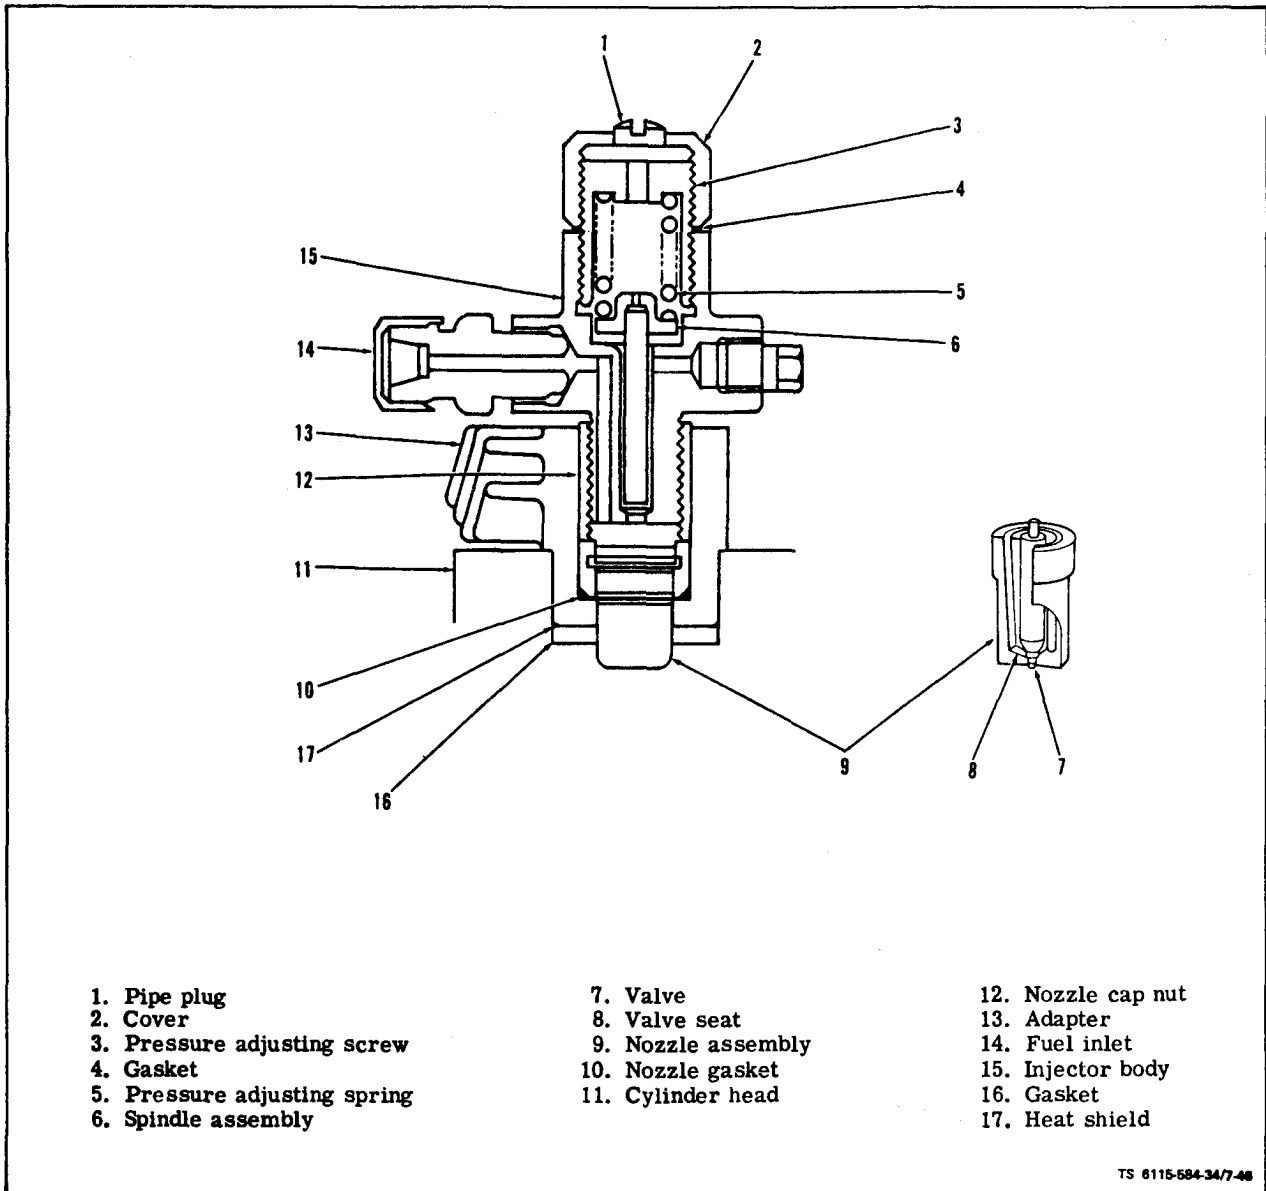

Figure 7-46. Fuel Injector
(1) Remove pipe plug (1, figure 7-46).
(2) Loosen (do not remove) cover (2).
(3) Install injector nozzle on a static fuel nozzle testing fixture.
(4) Insert a 5/32 inch hex socket key through hole in cover (2).
(5) Adjust opening pressure with hex key to correct pressure ( 1750 psi for a used injector, 1950 psi for a new injector).
(6) Tighten cover (2), and recheck opening pressure.
(1) Secure injector in a holding fixture and remove nozzle cap nut (12, figure 7-46) and nozzle (9).
(1) Rinse valve (7, figure 7-46) and nozzle (9) thoroughly in clean fuel oil before assembly. Valve must be free in the nozzle. Lift valve (7) about one-third out of nozzle and release; valve should slide back to seat without aid when assembly is held at 45 degree angle. If necessary, work valve into nozzle body. Using dry compressed air, blow out fuel inlet (14).
(2) Remove all pressure on nozzle spring by loosening adjusting screw (3).